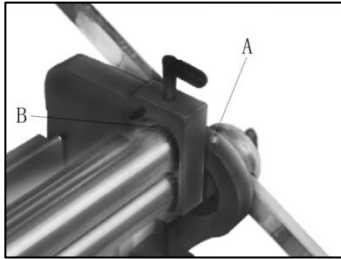

Figure 16
- Apply #2 lithium tube grease once a month to the grease nipples on both ends of frame (A, Figure 16).
- Lightly brush multi-purpose grease onto the gears at the end of the rollers (B, Figure 16). Turn operating handle to distribute the grease.